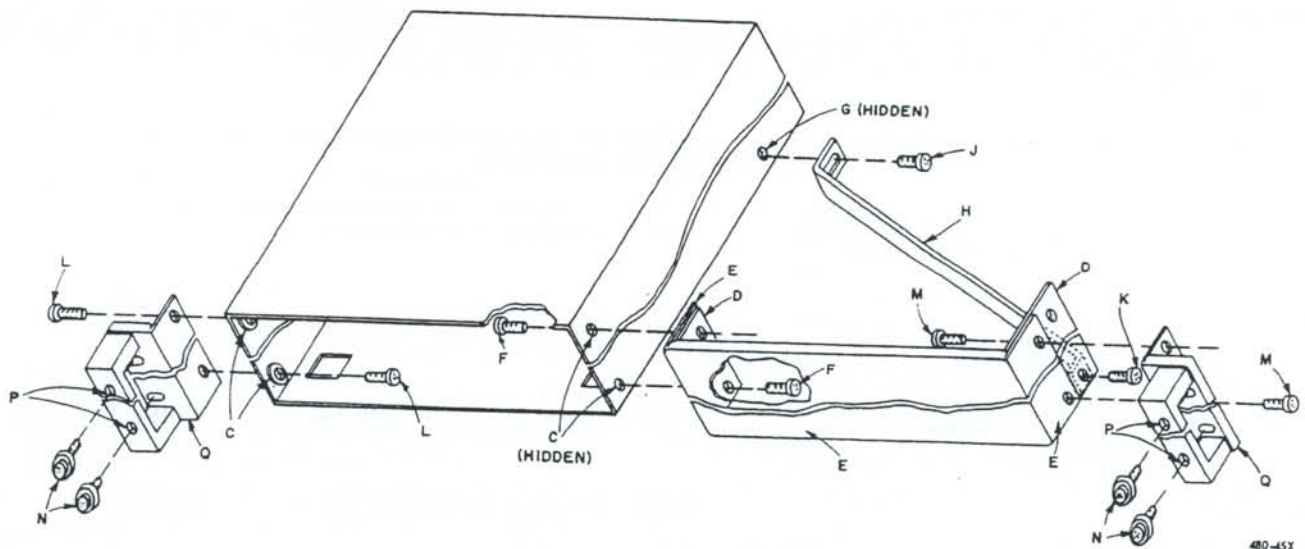

Figure 2-2. Assembly of the 1491 for installation in a relay rack.
• 1491-A, -B, -C. To install one of these decade inductors in a standard 19-inch relay rack, use the Rack-Adaptor Set (parts listed in Table 2-1), refer to Figure 2-2, and proceed as follows:
c. Press the sub panel (D) into the blank panel (E).
d. Attach the short flange of the blank panel (E) to the side of the cabinet, using two screws (F, Table 2-1) as indicated in Figure 2-2. The blank panel may be attached to either side of the cabinet. Note that the screws (F) enter in opposite directions — one from the inside of the cabinet and one from the outside.
e. Pierce and push out the plug in the lower rear boss (G) on the side of the cabinet where the support bracket (H) is to be attached.
f. Attach one end of the support bracket (H) to the lower rear boss (G), using a 5/16-inch screw (J). Use the end of the support bracket with the elongated hole.
g. Attach the other end of the support bracket (H) to the lower rear hole in the sub panel (D), using a 5/16-inch screw (K).
h. Attach one Rack-Adaptor Assembly (Q) to the other side (left side in Figure 2-2) of the cabinet, using two 5/16-inch screws (L). Note that the screws enter the holes in opposite directions.
i. Attach the remaining Rack-Adaptor Assembly (Q) to end of the blank panel (E), using two 5/16-inch screws (M). Note, that these screws enter in opposite directions and pass through the holes in sub panel (D), as shown.
k. Place a straight edge across the instrument panel and the blank panel (E). Loosen the screw (J) in the support bracket (H), adjust the alignment of the blank panel (E) so that it forms a straight line with
- b. Remove the blank panel (E), the support bracket (H), and both Rack-Adaptor Assemblies (Q) from the cabinet.
• 1491-D, -F, -G. To install one of these decade inductors in a standard 19-inch relay rack, use the Rack-Adaptor Set (parts listed in Table 2-2), refer to Figure 2-2, and proceed as follows:
- b. Pierce and push out the plugs from the four bosses (C) on the inner sides of the cabinet, near the front. (Be careful not to damage the threads.)
- c. Attach one Rack-Adaptor Assembly (Q) to the left side of the cabinet, using two 5/16-inch screws (L), as shown in Figure 2-2. Note that the screws enter the holes in opposite directions.
- d. Attach the other Rack-Adaptor Assembly (Q) to the right side of the cabinet, as described in step c.
Parts E, H, and D, as shown in Figure 2-2, are not used with 1491-D, -F, and G. Rack-Adaptor Assembly (Q) is attached directly to the side of the cabinet.